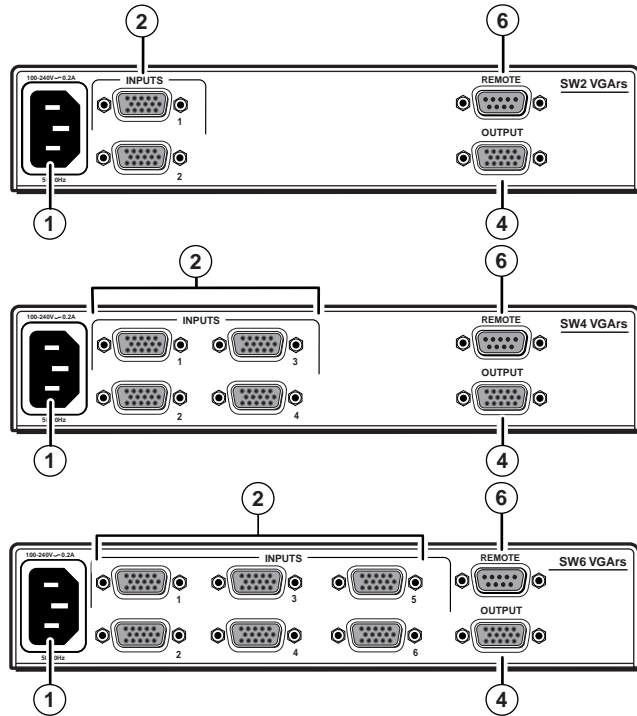
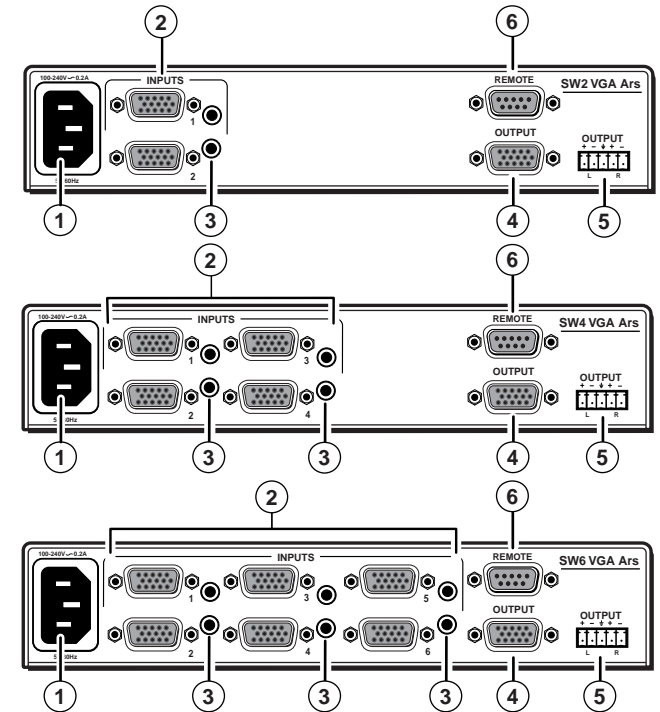
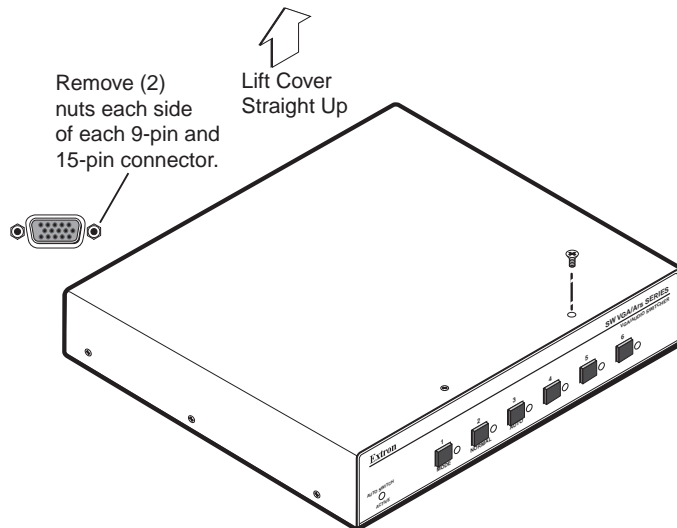

Figure 2-3 — Rear panel - SW VGArS switchers (no audio input or output connectors)
Figure 2-4 — Rear panel - SW VGA Ars switchers (with audio input and output connectors)
Figure 2-8 — Removing the cover
All connectors are on the rear panel. Depending on the model of the switcher, the number of connectors on the rear panel varies. Figure 2-3 shows the rear panels of the SW VGArS switchers. Figure 2-4 shows the rear panels of the SW VGA Ars switchers.
2. Remove the eight screws from the switcher (three on each side of the switcher and two on top) (figure 2-8). Remove the two connector nuts from the Remote connector (⑥ on figure 2-3 and figure 2-4) and each VGA connector (② and ④ on figure 2-3 and figure 2-4) on the rear panel of the switcher. Lift the top cover off of the switcher.